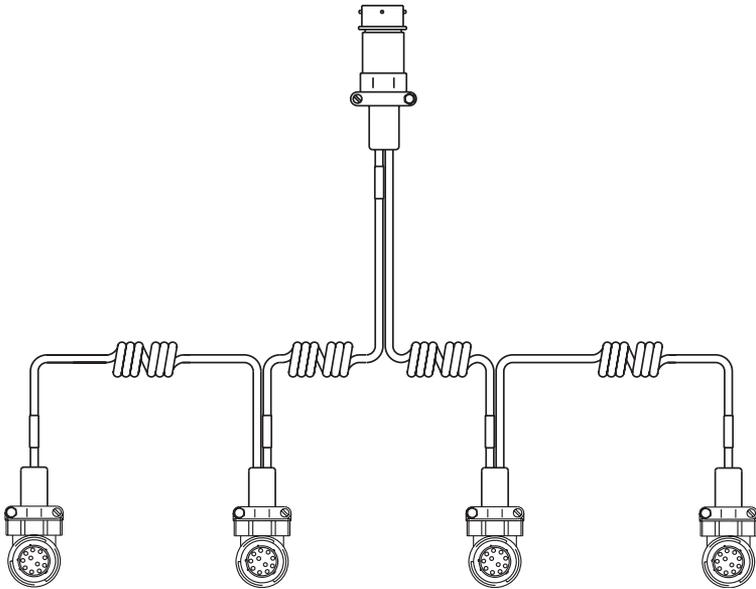

Figure 6-20. SAS Cable Connectors to Sonic Trackers
- Connect the SAS coil cable to each tracker (Figure 6-20). Make sure to loop the coil cable through the U-hangers to keep it from getting damaged.